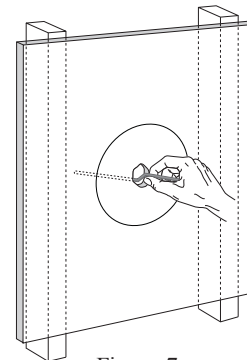

Figure 7
2. In the center of the circle just drawn on the mounting surface, make a small pilot hole. Insert a long wire (with an insulated handle) into the opening and verify there are no objects located in the ceiling where the Loudspeaker will be installed. Refer to figure 7.
Refer to figure 7.